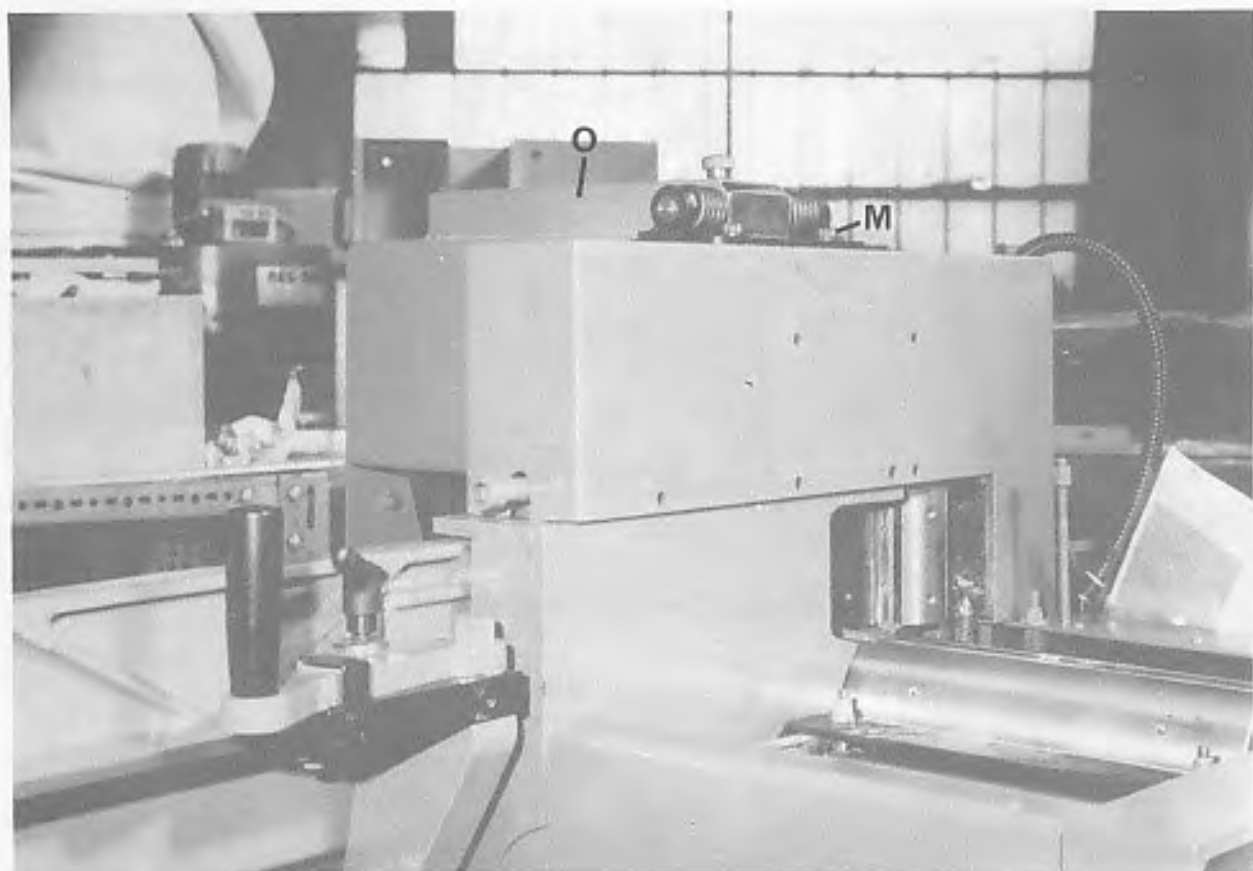

Fig 29
- 2) Remove 1 - M10 socket capscrew "M" FIG.29 from planer feed unit "O" and screw into top of planer feed unit.